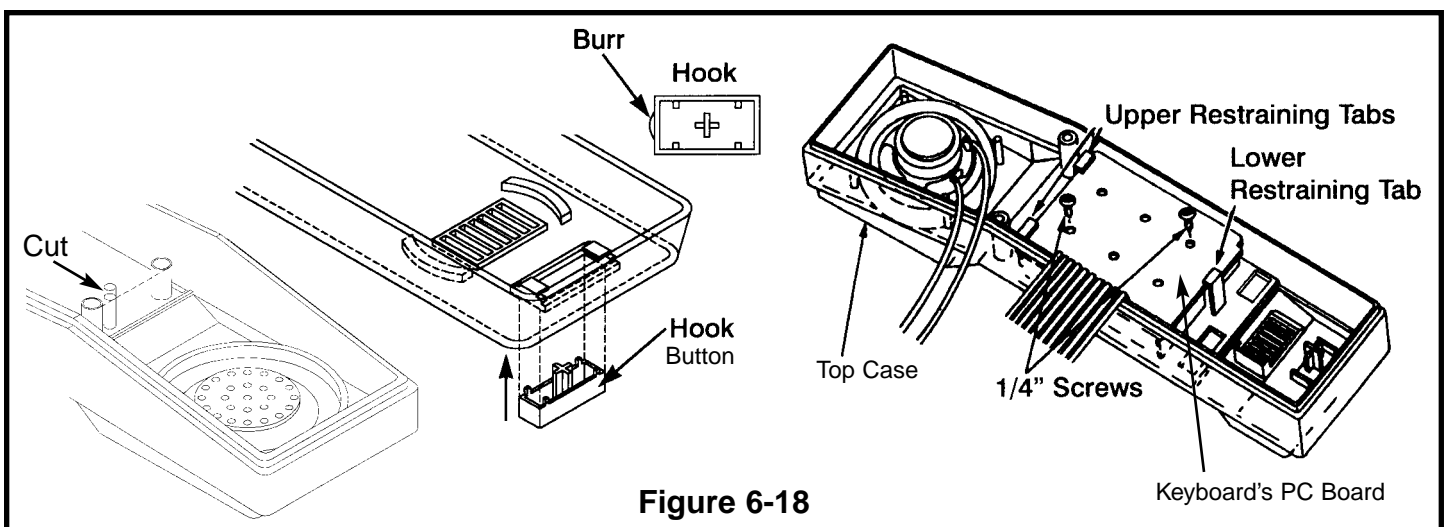

Figure 6-18
- Insert the buttons through the holes in the front plate (see Figure 6-18). BE SURE THAT THE "2" BUTTON IS IN THE HOLE MARKED "ABC".
- With the contact pad laying flat on the front side, insert the keyboard's PC board under the two upper restraining tabs. Push the lower restraining tab back and snap the PC board in place as shown in Figure 6-18. Fasten the PC board in place with the two 1/4 inch screws as shown in the Figure 6-18.